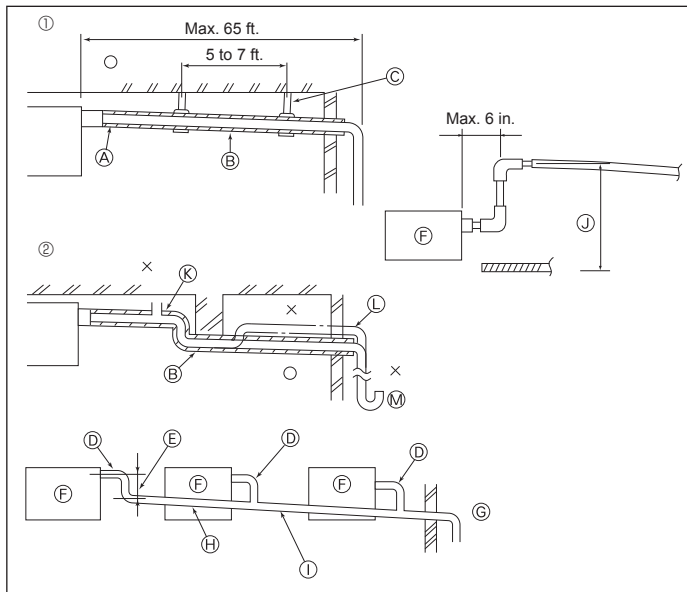

Fig. 4-5
4.4. Drainage piping work (Fig. 4-5)
- ① Correct piping
- ② Wrong piping